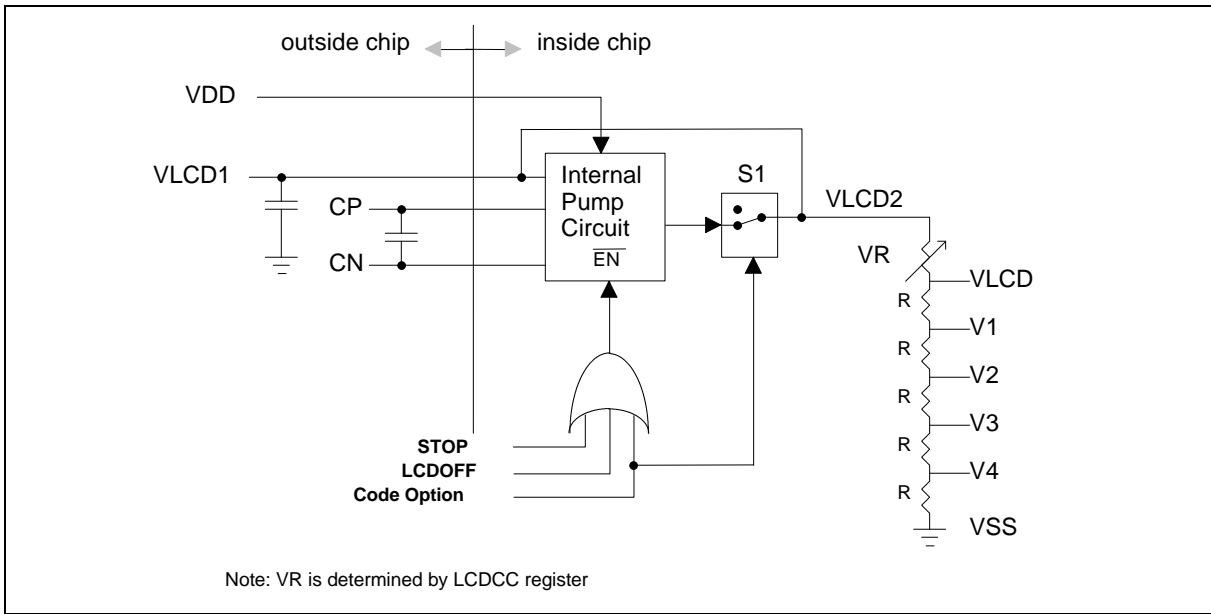

Figure 5-18 LCD power control circuit
LCD power (VLCD2) has two source, one is directly from the VLCD1 pin, another is from internal pump circuit. The LCD power source is selected by mask option. The pump circuit doubles the  $\mu\text{C}$  input voltage (VDD), **the power consumption in internal pump mode is more than directly input from VLCD1**. The LCD pump circuit only works in the VDD range from 2.4V to 4.0V. If the operating voltage of VDD is up 4.0V, the LCD power should come from the VLCD1 pin. The LCD contrast is adjustable by an internal variable resistor (VR). VLCD voltage is controlled by setting bit2, bit1 and bit0 of LCD contrast control register (LCDCC). LCDCC is determined by executing `MOV LCDCC,#I`. The Figure 5-18 shows the LDC power control as below: